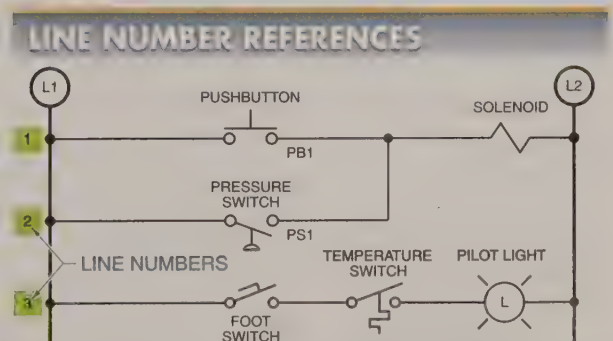

Figure 5-7. Each line in a line diagram should be numbered starting with the top line and reading down.
Each line in a line diagram should be numbered starting with the top line and reading down. See Figure 5-7.
1. Name the circuit signals used in the signal section of the circuit in Figure 5-7.
2. Name the circuit loads used in the action section of the circuit in Figure 5-7.
3. Name the circuit control logic used in the decision section of the circuit in Figure 5-7.